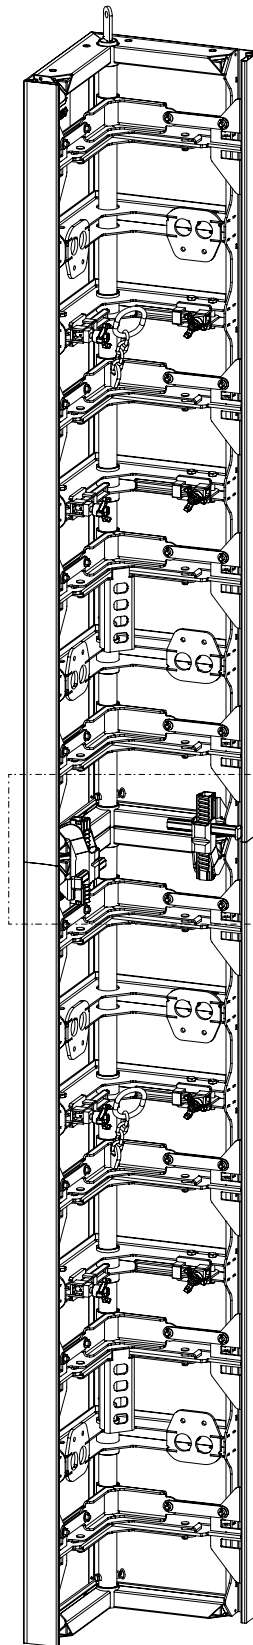

Fig. A11.11
2. Position shaft corners on top of each other. (Fig. A11.11 + A11.11b) Thereby, push the tension strap of the bottom panel into the tube of the top panel.
3. Insert bolts (80.3) through the congruent holes and secure with cotter pins. (Fig. A11.11 – A11.11c)